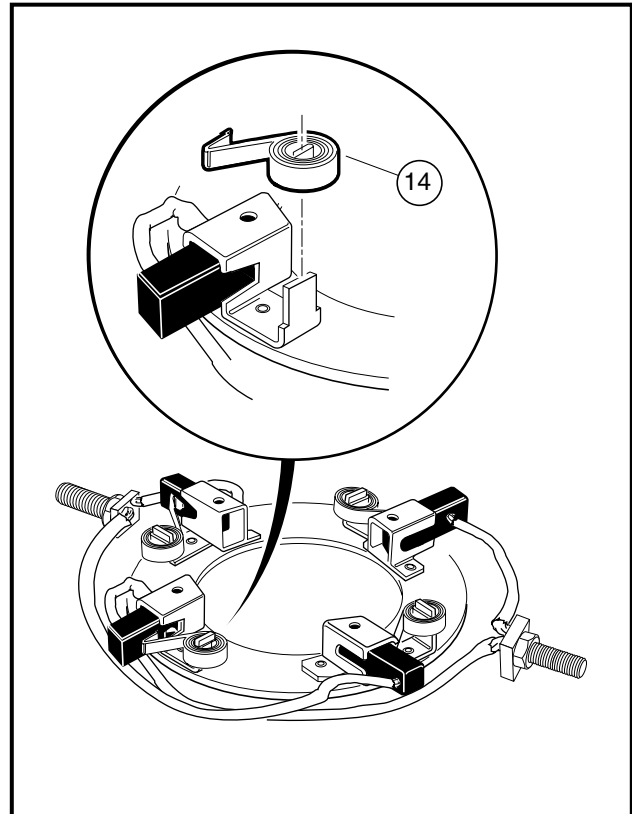

Figure 15-6 Brush Spring Removal
- To remove brush springs (14) from the rigging, lift the spring extensions out and over the brush mounts and then slide the springs off their mounting tabs (**Figure 15-6, Page 15-5**).
- 2.2. One at a time, push brush spring extensions back from brushes and slide the brushes back until they are completely retracted into their mounting slots. Then position the brush springs against the sides of the brushes so that spring pressure will hold them in the retracted position (**Figure 15-6, Page 15-5**).